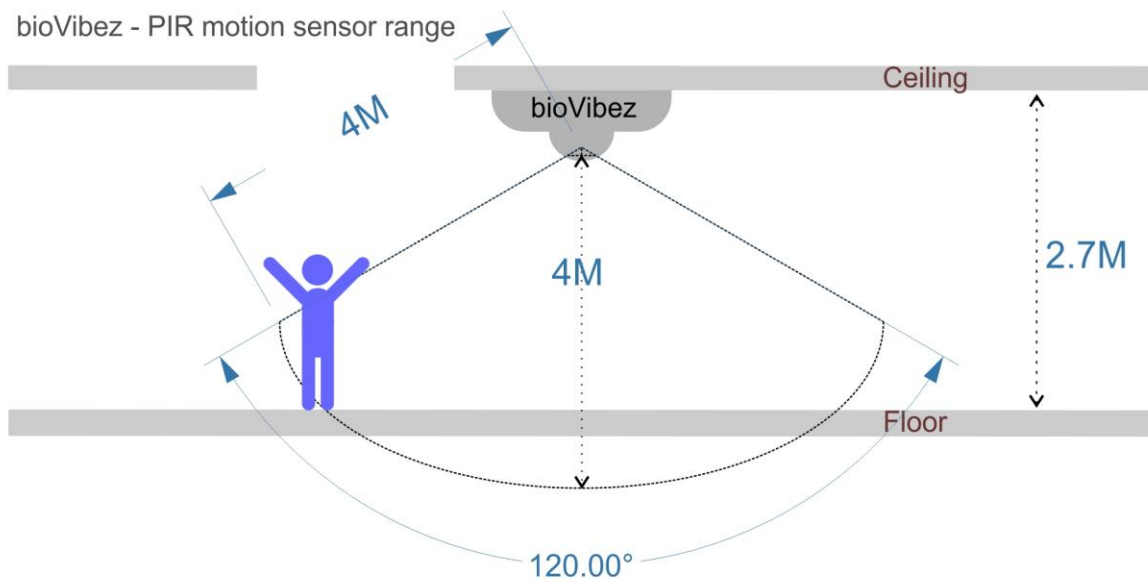

Figure 1 – Motion sensor range & detection angle
2. Detection area of Motion sensor – Make sure detection area is covered within 120 degrees of sensor detection angle. (See fig.1)
3. Detection range should be kept less than 6 meters. (See fig.1)